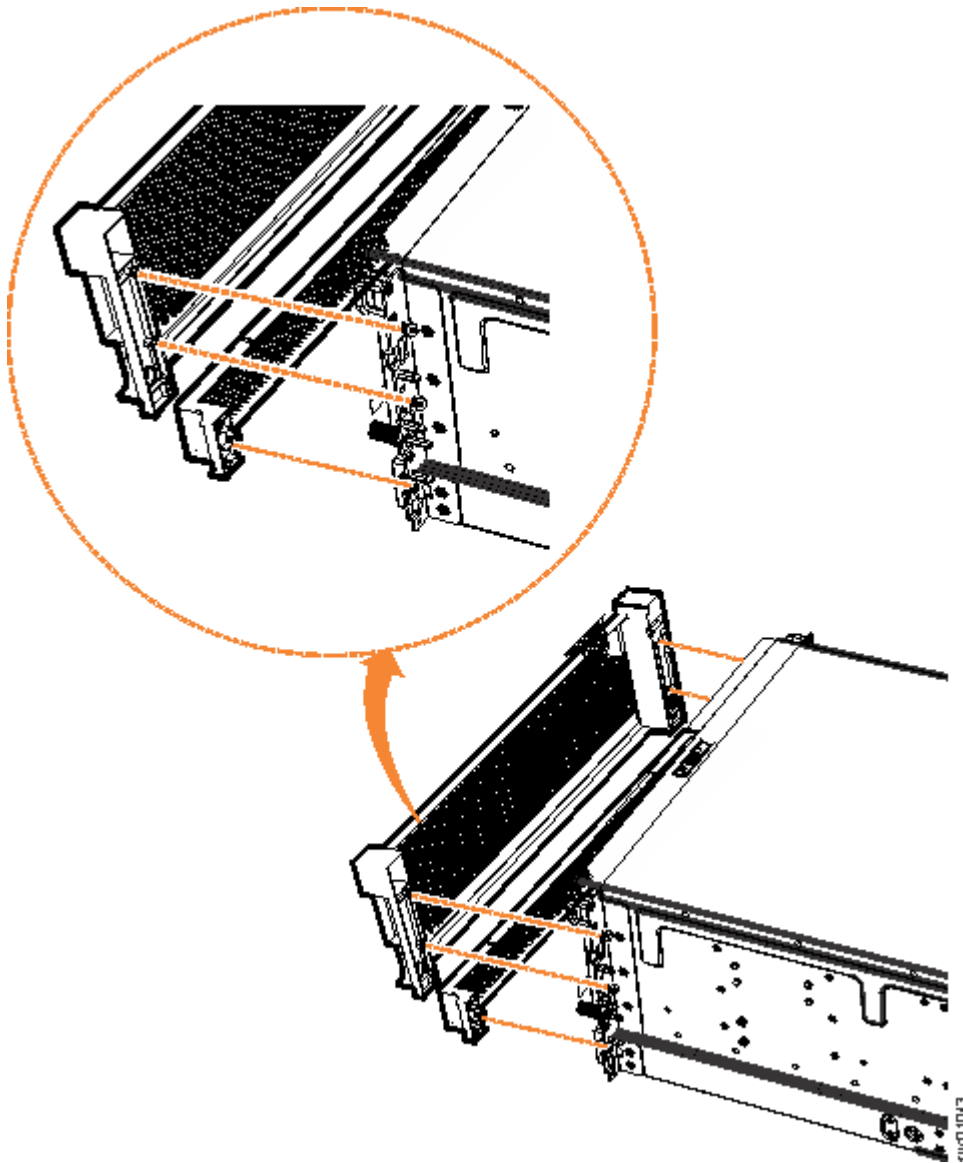

Figure 74. Remove fascia components from the expansion enclosure
2. Remove the front fascia by removing the two screws that attach the fascia to the flange on each side of the chassis, as shown in Figure 74 on page 71.
3. Gently pull on each side of the PSU fascia to remove it from the chassis, as shown in Figure 74 on page 71. The PSU fascia disengages from the slot and pin that connect it to each side of the chassis.